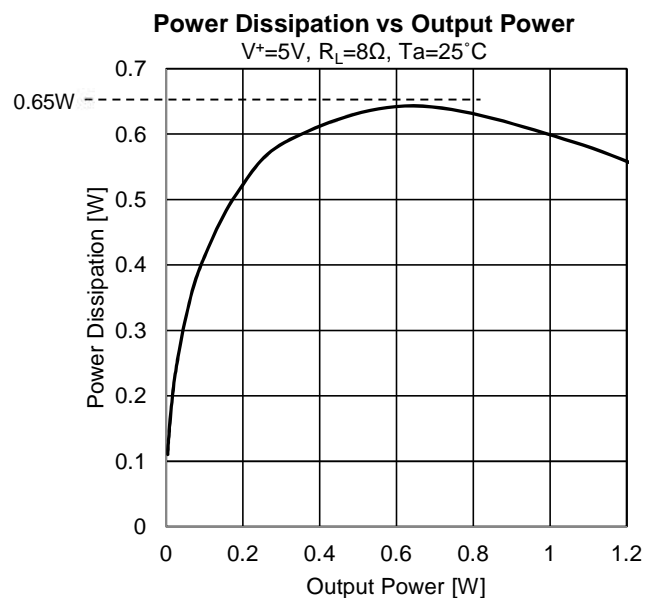

Fig. 19 Power Dissipation vs. Output Power
In the designing, power dissipation (P) should be verified in the using but temporary value is read by Power Dissipation vs Output Power on the datasheet's typical characteristics. Fig.19 shows typical characteristics under the conditions that $T_a=25^\circ\text{C}$, $V^+=5\text{V}$, $G_v=+6\text{dB}$ and $R_L=8\Omega$ BTL. The following are examples.
Maximum ambient temperature T_a is set by the following under the conditions that $V^+=5\text{V}$, $R_L=8\Omega$ BTL and maximum output power $P_o=1.2\text{W}$ because maximum power dissipation (P) is approximately 0.65W by Fig. 19.
Maximum output power (P_o) is gotten approximately 0.2W or under by Fig. 19 under the conditions that $V^+=5\text{V}$, $R_L=8\Omega$ BTL, $P_D=0.5\text{W}$ and $T_a=60^\circ\text{C}$.